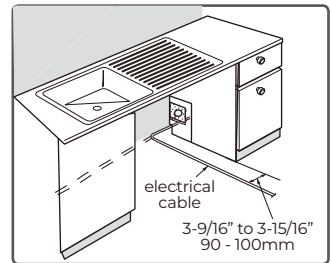

Fig. 4
1. The wiring or cord must be routed as shown in Fig. 4.
- Make sure electrical supply are routed through the channels under the dishwasher as shown in Fig. 4.